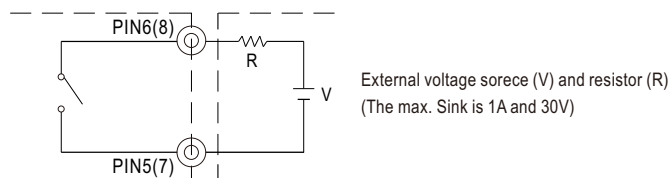

Fig 2.2 Internal circuit of AC OK (Battery Low), via relay contact
- (1) Alarm Signal is sent out through " AC OK " & " Battery Low " pins via relay contact.
- (2) An external voltage source is required for this function. The maximum applied voltage is 30V and the maximum sink current is 1A. Please refer to Fig 2.2.
- (3) Table2.1 explains the alarm function built in the power supply
- (4) AC OK signal (RL1,referring to Block Diagram) will go into hiccup mode when the overload protecton is activated.